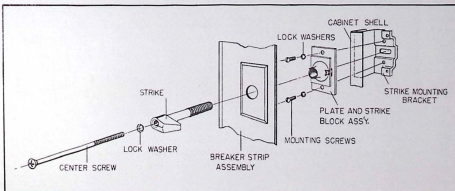

FIGURE 5 — Door Strike
1. Loosen the screw in the outer end of the strike. With the screw loose all adjustments may be made. See figure 5.